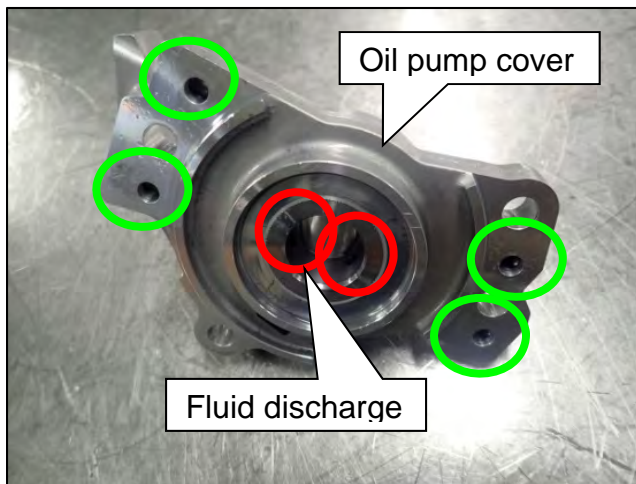
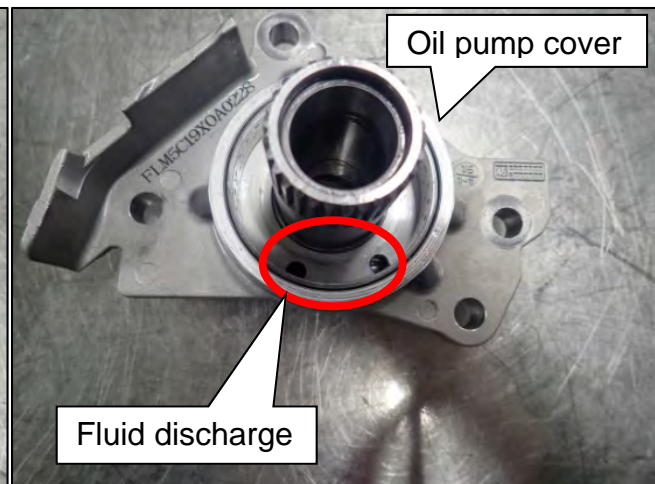

Figure 125
Figure 126
- d. Spray brake cleaner into the oil pump cover oil passages indicated in green in Figure 125.
To avoid the risk of minor personal injury, do not face the passage indicated in red in Figure 125 and Figure 126 while cleaning.